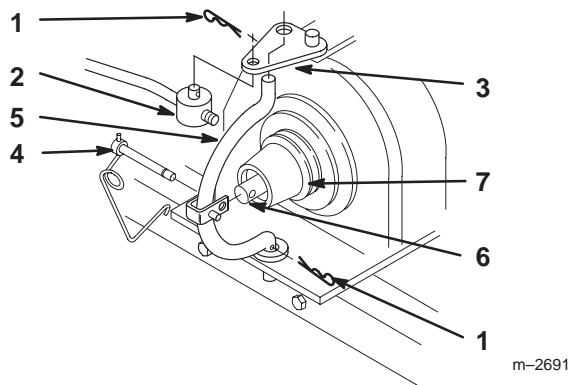

Figure 39
2. Remove hairpin cotters from trunnion and bottom of yoke (Fig. 39).
3. Unlatch and remove locking clevis pin that secures yoke assembly to clutch shaft. Pivot yoke out and forward to remove from clutch shaft and engagement plate (Fig. 39).
4. Remove snowthrower belt from pulley (Fig. 39).
5. Assemble yoke and engagement plate and attach locking clevis pin, trunnion and hairpin cotters to secure (Fig. 39).